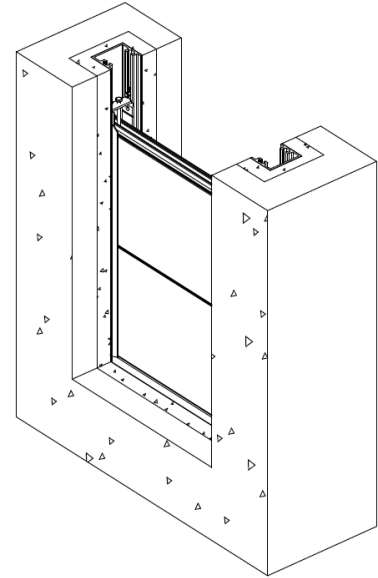

Figure 4
- Pour the second phase of concrete. Take special care not to damage the seals (see Figure 4).